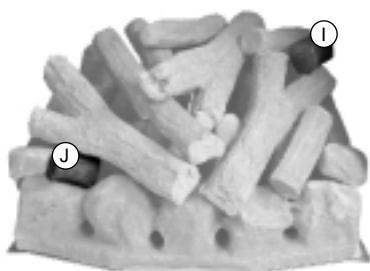

Fig. 44
8. Finally position the last two logs making sure all the gaps between the logs are even. It is important to establish an even pattern in order to attain a balanced flame picture and efficient combustion (Fig. 44).